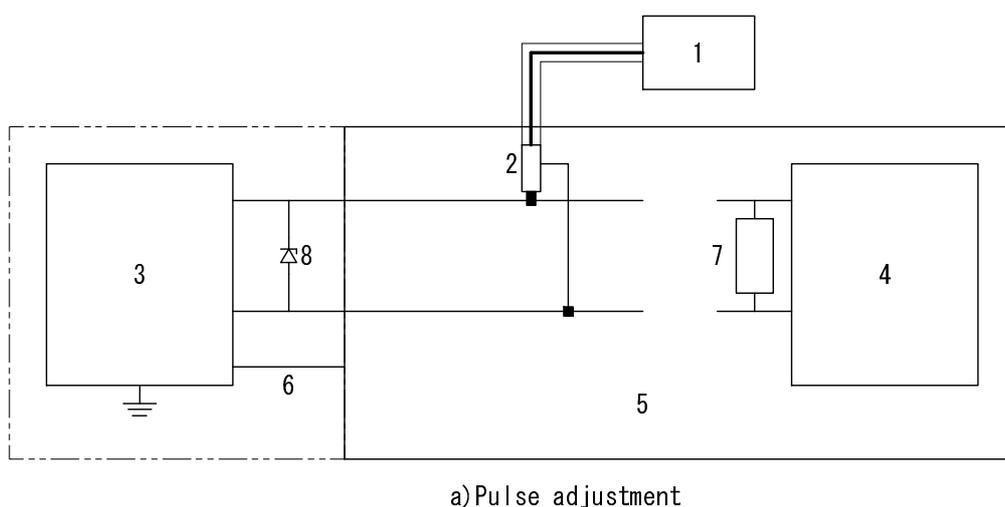

Figure 5 Test Configuration (For Pulse Veification)
- (1) Pulse 5a Output Open (Top of Table 1)
- (2) Pulse 5a Output with 2Ω (Annex D) (Bottom of Table 1)
- (3) Pulse 5b Output Open (Table 2, td is the same as td of Pulse 5a Output Open)
The current flow changes dramatically compared with Pulse 5a Output Open, and td always changes when zener diode is connected to the Unit output as shown in Figure 5, **This standard contains inconsistency.** and it is not possible to realize the waveform (3) specified in the standard under the Figure 5 configuration. A test set-up other than a zener diode connection to the output must be used to output waveform satisfying (3).
The Unit is designed according to Figure 5 configuration, which models the conditions of real vehicles. Please note **td shown in Table 2 cannot be realized for this reason.**